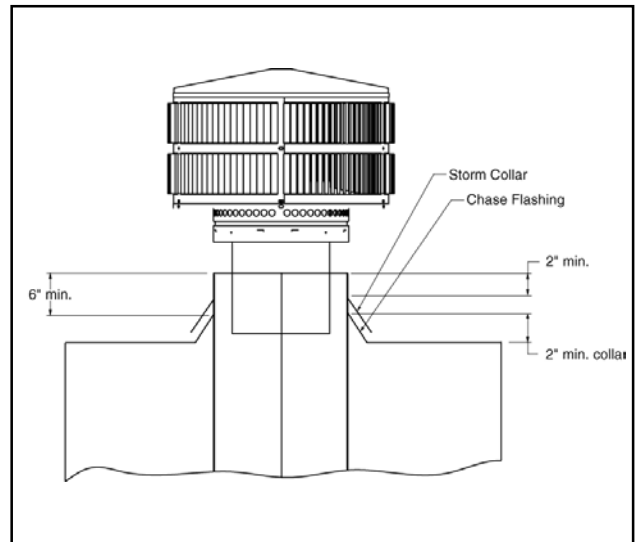

Figure 14 - Installing a TR11 Round Termination Cap
- Install the chimney sections up through the chase enclosure. When using a TR11 round termination cap, the uppermost top section of pipe must extend 6" above the top of the chase collar to allow installation of the storm collar and termination cap. See Figure 14.